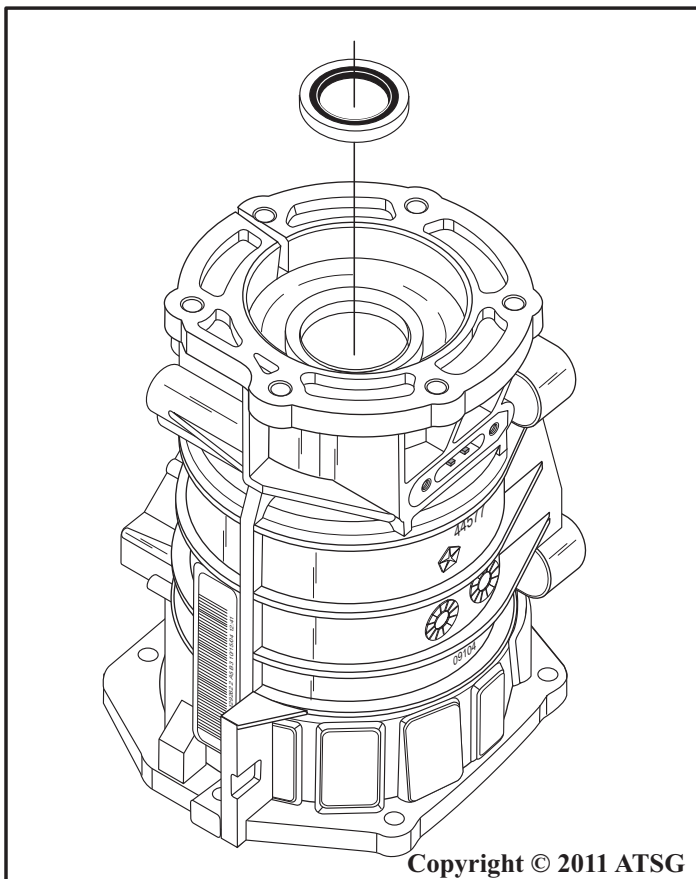

Figure 189
39. Install new overdrive housing seal, as shown in Figure 189, using the proper seal driver.